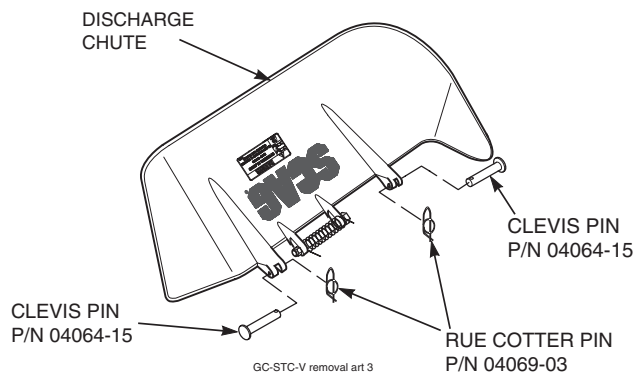

FIGURE 4-3
6. Re-install the side discharge chute to the opening on the cutter deck. Replace the two outside mounting bolts on the discharge chute with the clevis pins (p/n 04064-15) and rue cotter pins (p/n 04069-03). See Figure 4-3.